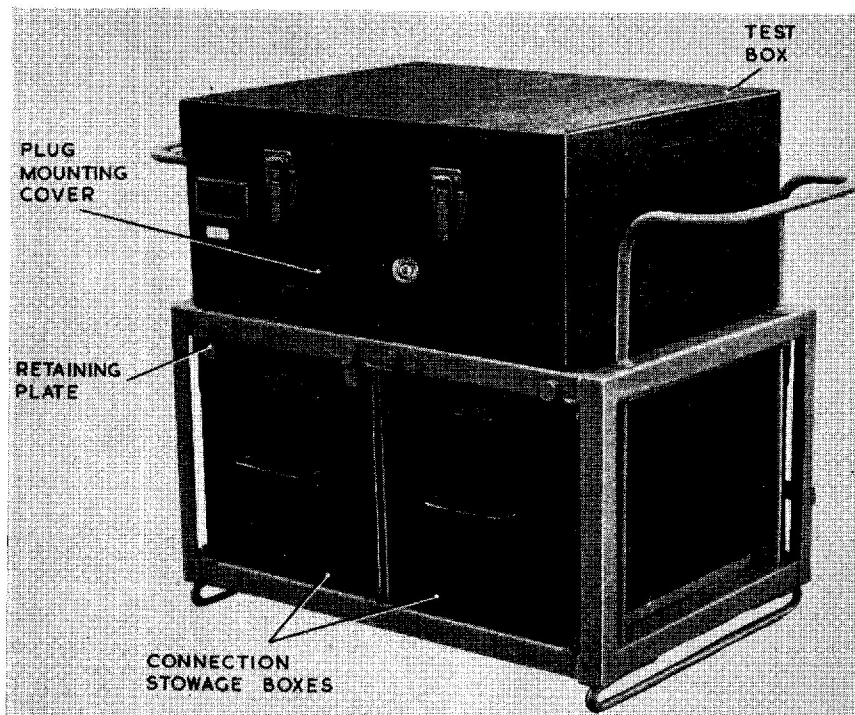

Fig. 1. Portable bomb circuit test set
2. The equipment, which is designed for ease of transportation, comprises a test box and connector storage boxes supported in a frame (fig. 1). The test box contains a unselector, relays and banks of indicator lamps, which load the various aircraft circuits and give indication of satisfactory functioning. Connectors are provided for connecting the test box to the aircraft carrier stations and when not in use are stored in boxes below the test box (fig. 1). Facilities for connecting a recorder to the test box are provided to enable the quality of the release pulses to be checked.